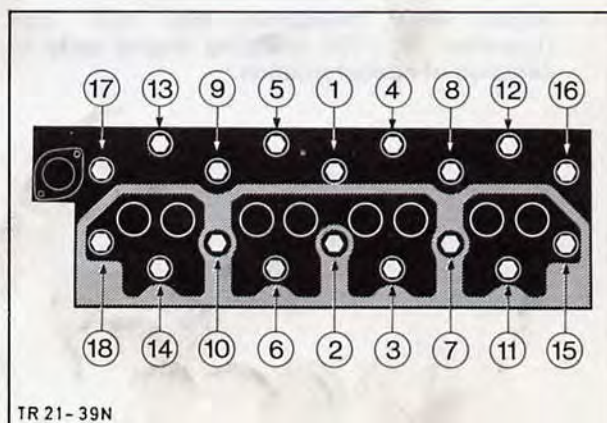

Fig. 104. Cylinder head bolt tightening sequence
15. Remove cylinder head bolts (18), reversing tightening sequence (for tightening sequence see Fig. 104). Lift out cylinder head complete with inlet and exhaust manifolds.
16. Clean cylinder head and engine block joint faces. Position new cylinder head gasket with part number facing upwards and carefully place cylinder head on locating bushes, ensuring correct assembly of by-pass hose. Tighten cylinder head bolts in sequence shown in Fig. 104 and torque as specified in Technical Data. Secure by-pass hose.